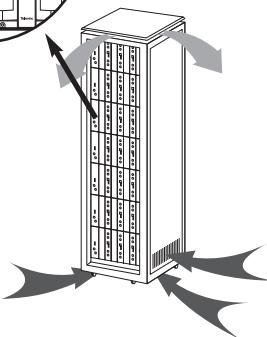

fig. 4
To mount the units in the rack with ventilation, you must mount a blank plate ref 5173 between the modules to allow a correct ventilation of the equipment and 5073 to replace units, fig. 4.